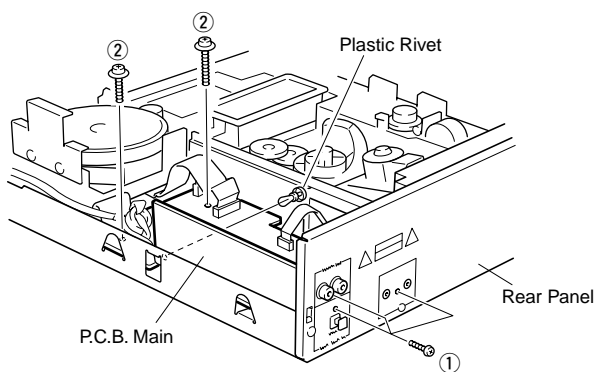

Fig. 1
- c. Remove 3 screws ( ① ) on the Panel as shown in Fig. 1.